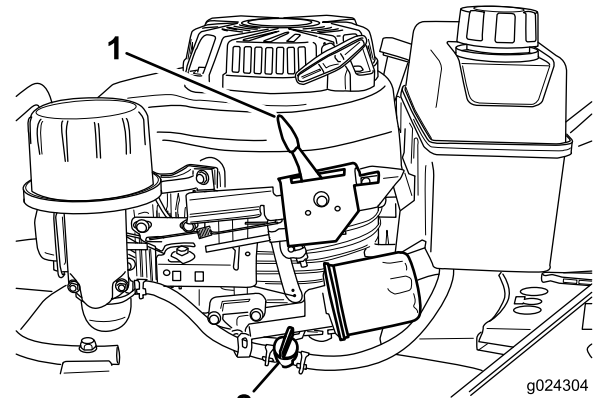

Figure 11
2. Open the fuel valve (Figure 11).
3. Move the throttle-control lever (Figure 11) to the Choke position.
Release the blade-control bar and move the throttle-control lever (Figure 11) to the Stop position.
Note: Close the fuel valve (Figure 11) if you will not be starting the engine soon afterward.